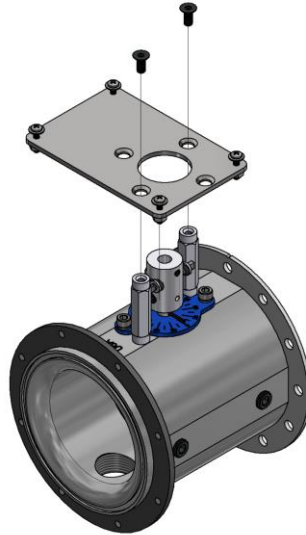

Figure 2: Bracket Removal
1. If adding the AGA92.5 to an existing assembly, first the bracket/coupling assembly must be removed. Start with removing the existing bracket by unfastening the two M6x14mm screws shown in Figure 2. A 5mm hex key is required to remove them.